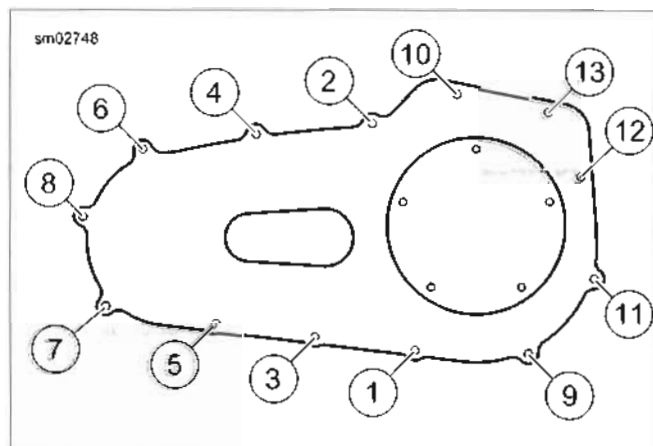

Figure 5-3. Primary Chaincase Cover Torque Sequence
3. See Figure 5-3. Tighten primary cover fasteners (1-13) to 12-13 ft-lbs (16.3-17.6 Nm) in the sequence shown.